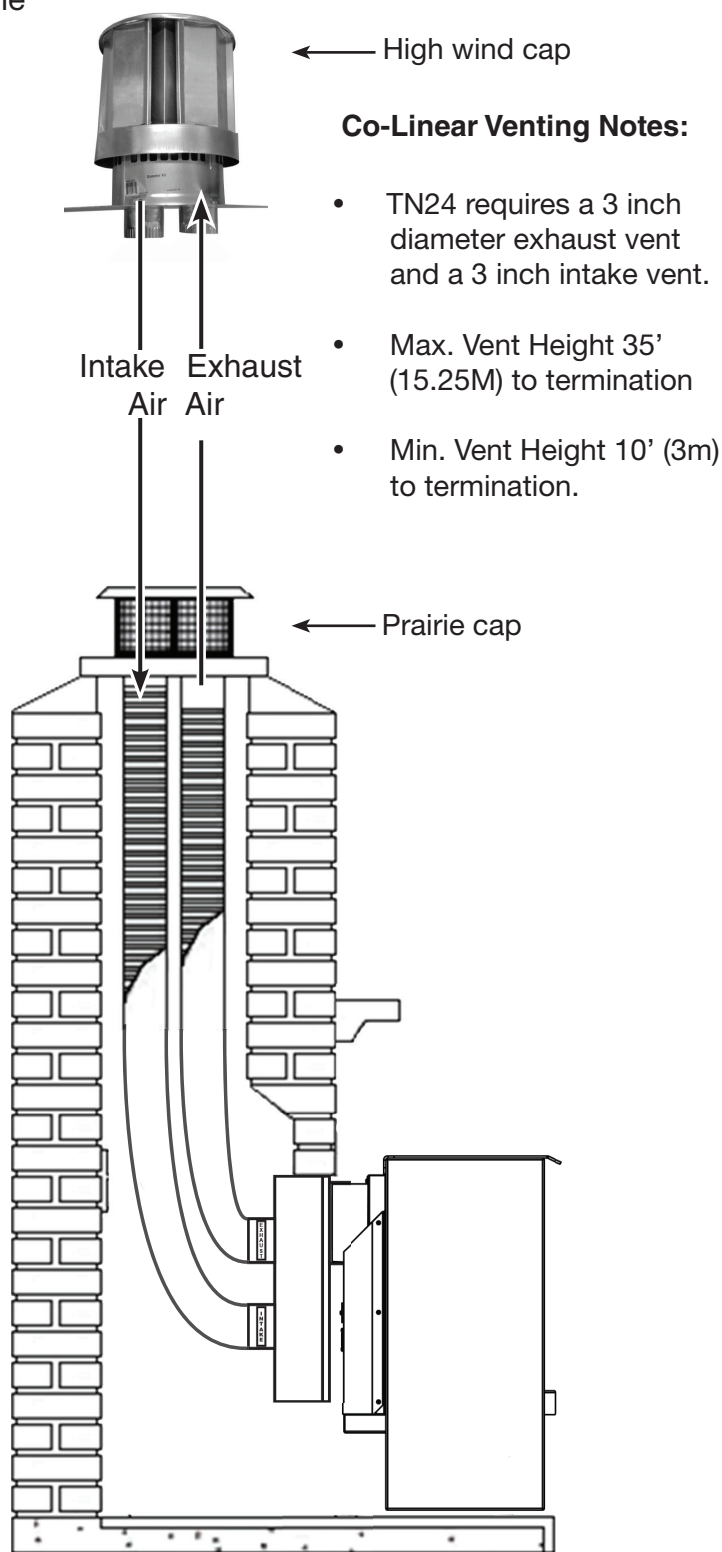

Figure 27: TN24 co-linear venting configuration.
1. sealing up the existing fireplace opening with a cover or other material, leaving room in the cover or other material to accommodate the adapter so that it is positioned flush (Figure 27) with the cover or other material.